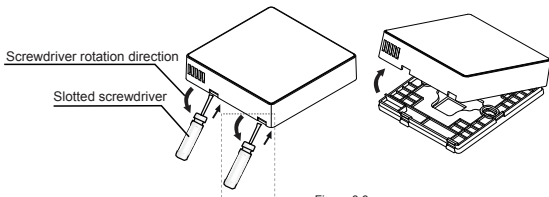

Figure 3.3
**3-3-1** Insert a small slotted-head screwdriver into the bottom slot of the wired controller and rotate in the direction indicated to remove the rear cover of the wired controller. Pay attention to the direction of rotation to prevent any damage to the rear cover of the wired controller. (see Figure 3.3)